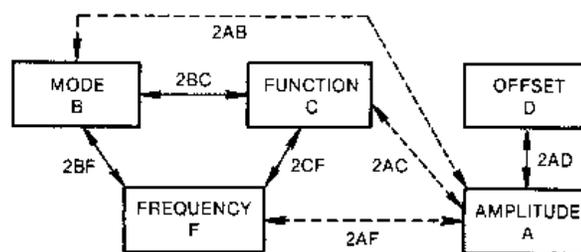

Figure 3-9. Class 2 Errors
Class 2 errors are interparameter inconsistencies such as  $2 \times \text{ABS}(\text{OFST}) + \text{peak to peak amplitude}$  greater than 10.4V. Figure 3-9 shows the possible types of class 2 errors. Tests are made every time an execute (I) or GET is given. If no class 2 error is detected, all scratchpad values are transferred to the waveform memory (see table 3-1).